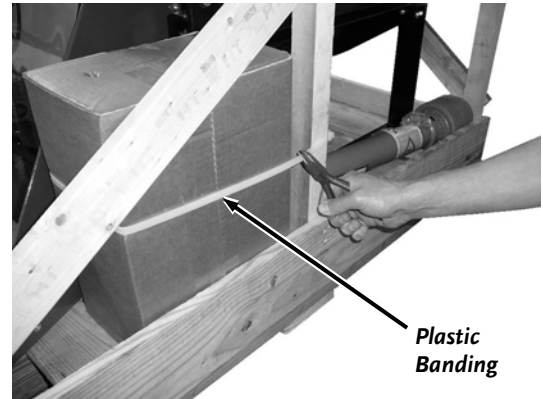

Figure 5
1. Cut the Plastic Banding that is securing the Parts Box, PTO Shaft Assembly and any Accessories that may be strapped to the Crate (*Figure 5*).